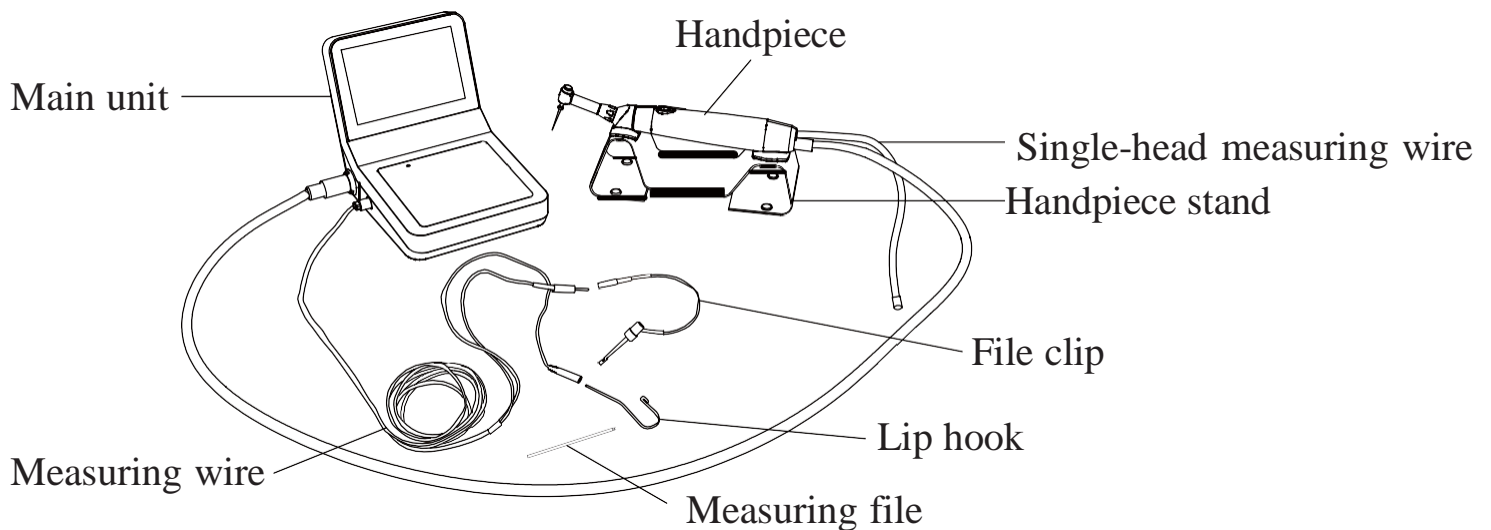

Fig. 3.2 Explanation of connecting the main unit and components
3.2 Connecting the Main unit and Components (Fig. 3.2)